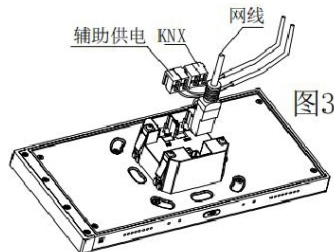
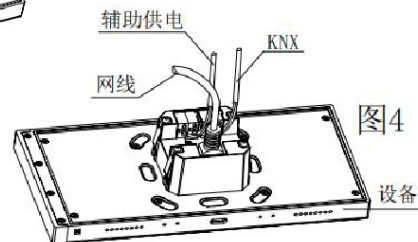

图3
图4
2. Remove the KNX bus connection terminal on the device and connect it correctly according to the wiring instructions, as shown in Fig.3; After wiring, install the KNX bus terminal of the connected wire into the installations, and connect the network cable with the installations, then the wiring installation is finished, as shown in Fig.4;
2. 将面板上的 KNX 总线连接端子取下，按接线说明进行接线。如图 3 所示；完成接线后，再把接好线的 KNX 总线端子插入设备，并将网线与设备连接好，即可完成接线安装。如图 4 所示；